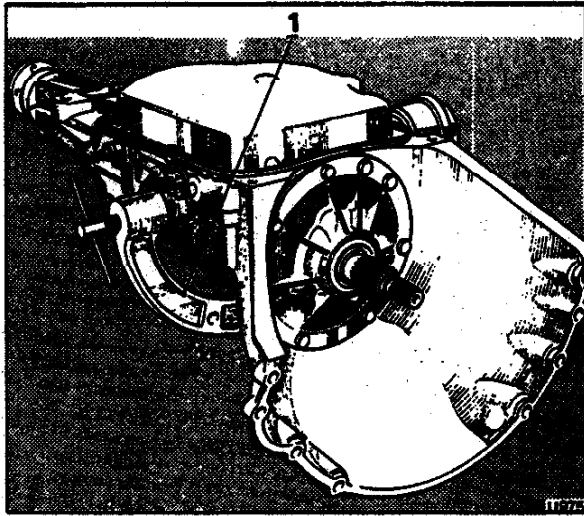

Fig. T33 Transmission in holding fixture
30. Fit the transmission into the holding fixture RH 7955 (J-8783) as shown in Figure T33.